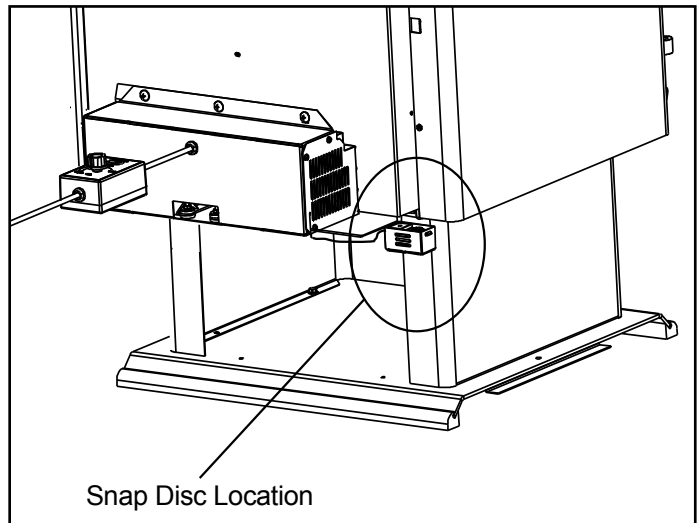

Figure 35.3
1. Locate the snap disc bracket assembly at the bottom left rear corner of the stove. **Figure 35.3**